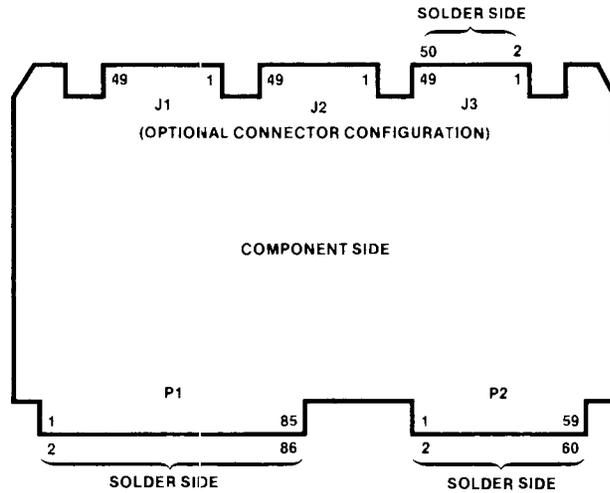

Figure 4-3. Connector and Pin Numbering
The connectors on the printed circuit boards designed for the MULTIBUS interface should adhere to the following standards (see figure 4-3):
- Pins should be numbered with odd number pins on the component side of the board, and in ascending order when going counterclockwise around the board (as shown in figure 4-3).